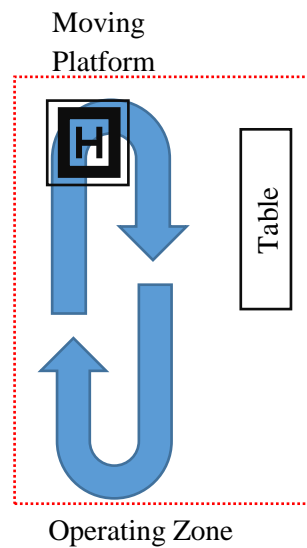

Figure 6-2: Operating Zone Layout¹¹
Operating Zone (OZ) is where all participants (except failsafe pilot and/or observer) should be gathered throughout the whole competition turn. All ground control station (including antenna, router, booster etc.) should be set up in this zone. Any additional object/marker set up beyond this zone will have a penalty of -2 each on Autonomy Factor (will be discussed in Section 0) of the respective mission element which benefits from the object/marker. Layout of the OZ is shown in Figure 6-2.